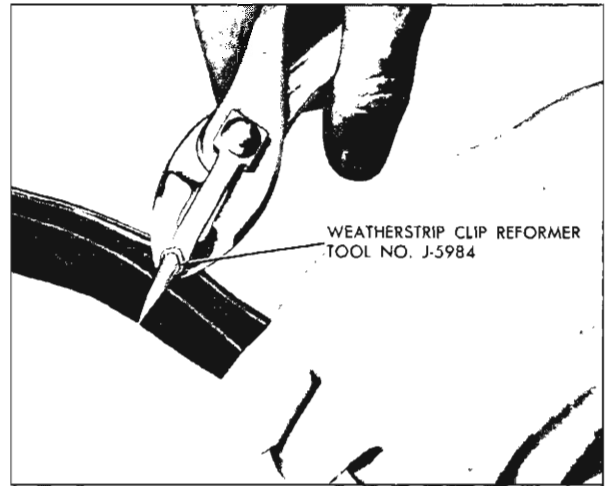

Fig. 12-6 Weatherstrip Clip Reforming Tool
2. Check weatherstrip clips for proper contour and reform if necessary using tool J-5984 (Fig. 12-6).
2. Check weatherstrip attaching clips for proper contour and, if necessary, re-form using tool J-5984 (Fig. 12-6).